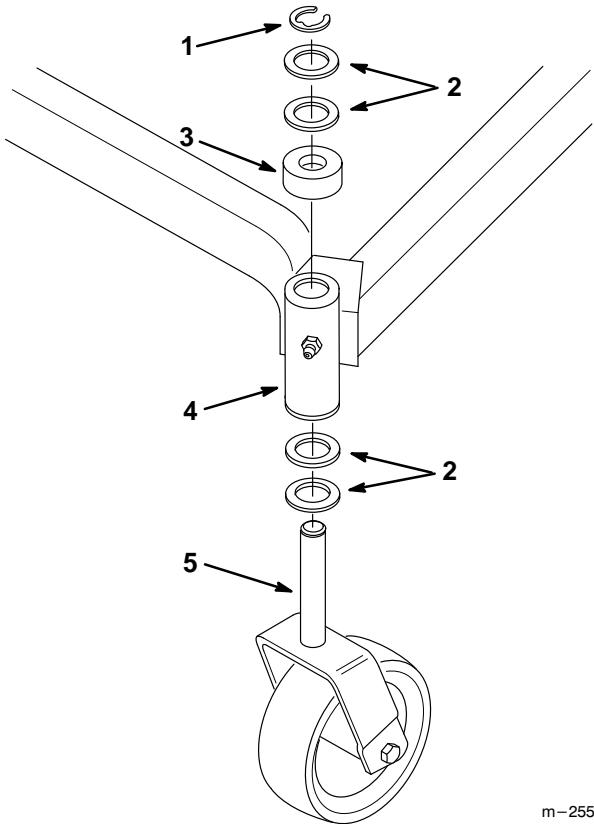

Figure 1
1. Place two (2) thrust washers onto the castor wheel fork (Fig. 1).
2. Insert the castor wheel fork into the carrier frame mounting tube (Fig. 1).
3. Install the spacer and two (2) thrust washers onto the castor wheel fork, then secure with a retaining ring (Fig. 1).